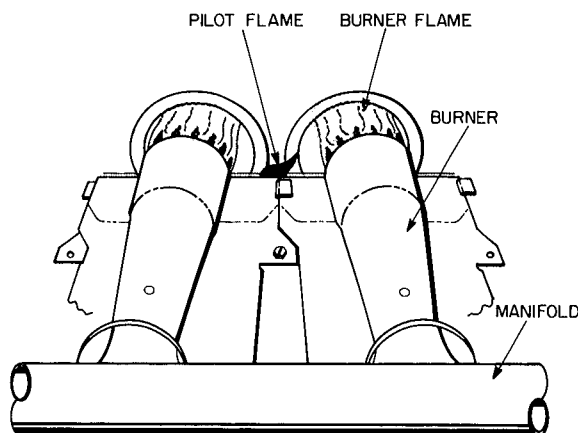

Fig. 8 — Proper Pilot and Burner Flames
2. Main burners should light 25 to 75 seconds after pilot. If main burners do not light within prescribed time period, adjust pilot flame, allow pilot to cool for 5 minutes, and repeat time check (Fig. 8).
- b. Turn adjusting screw either counterclockwise (out) to decrease input rate or clockwise to increase rate. When adjusting input rate, do NOT change manifold pressure more than 0.3 in wg. Make any major adjustments by changing main burner orifices (Fig. 8).
3. Look through sight glass in burner enclosure and check burner and pilot flame. The main burner flame should be clear blue, almost transparent. The pilot flame should be well defined. See Fig. 8.